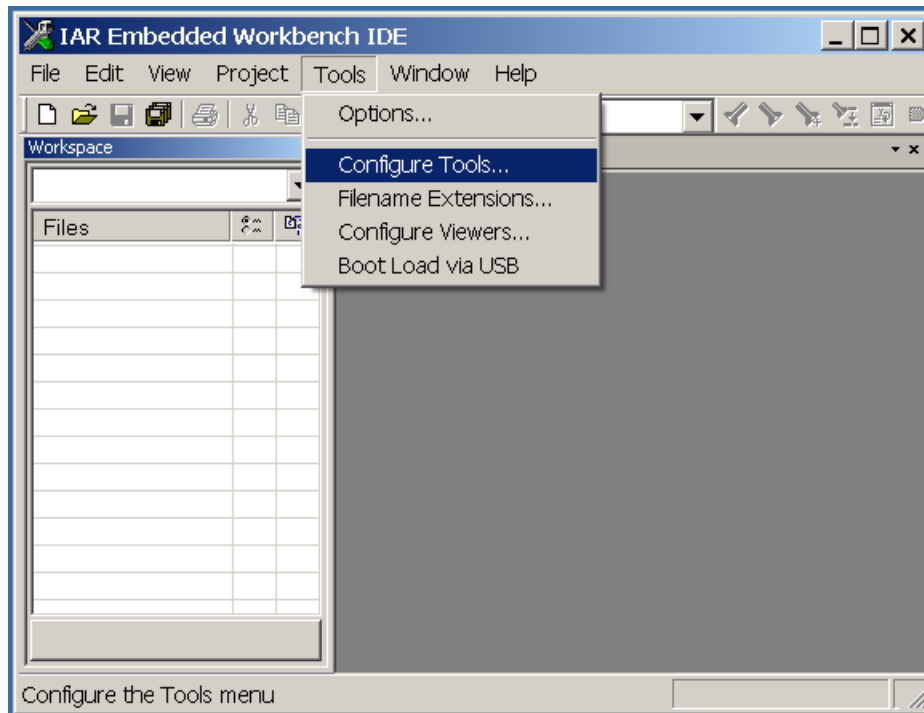
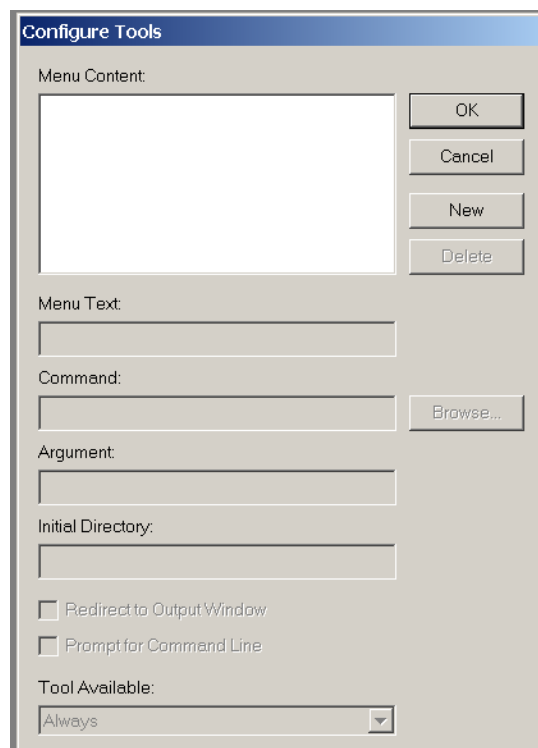

Figure 7.1. IAR Workbench Tools Menu
Figure 7.2. Configure Tools Dialog
If the tools menu in the IAR workbench does not include a command called “Boot Load via USB,” as shown in Figure 7.1, the description below describes how to configure the tool.
1. Select the Tools->Configure Tools menu as shown in Figure 7.1. The dialog box shown in Figure 7.2 will appear.
9. The tools menu should now have a “Boot Load via USB” entry as shown in Figure 7.1.